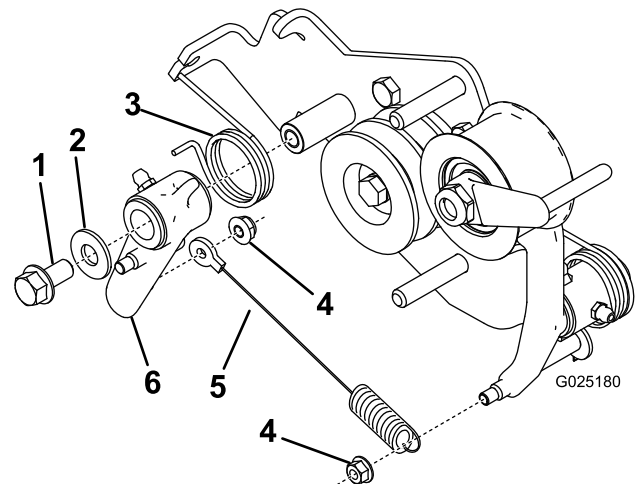

Figure 3
7. Remove the traction lever assembly and necessary parts from the old clutch bracket and install them on the new clutch bracket (Figure 3).